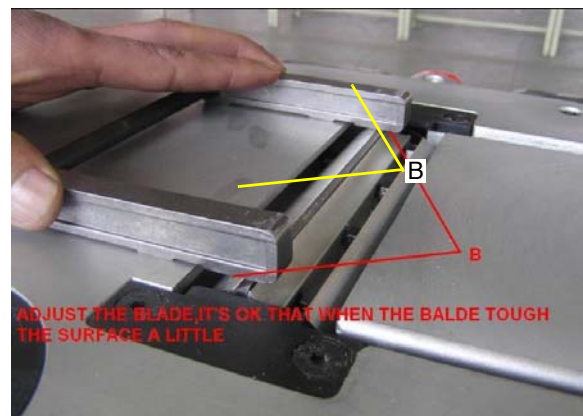

Fig. 33: Setting the planing knives to surface B
Step 11: Turn the planer head and adjust the knife to the height of surface B (Fig.33)